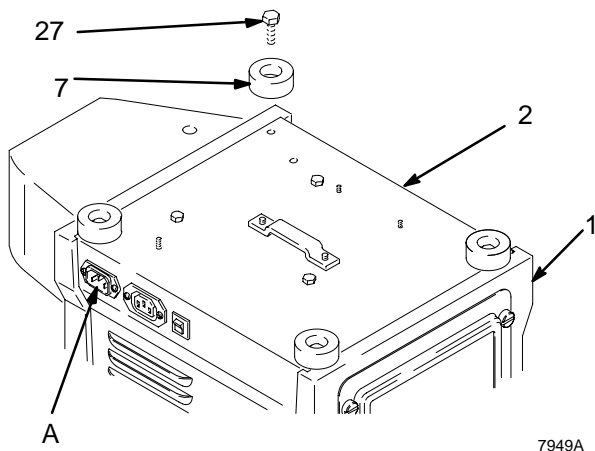

Fig. 9
2. Place turbine upside down on work surface. Remove four cap screws (27) and bumpers (7). See Fig. 9.
3. Carefully lift unit by turbine baseplate (2) from turbine cover (1), and place upright on work surface.
Replace power cord by unplugging from IEC connector (A). Install new cord. See Fig. 9